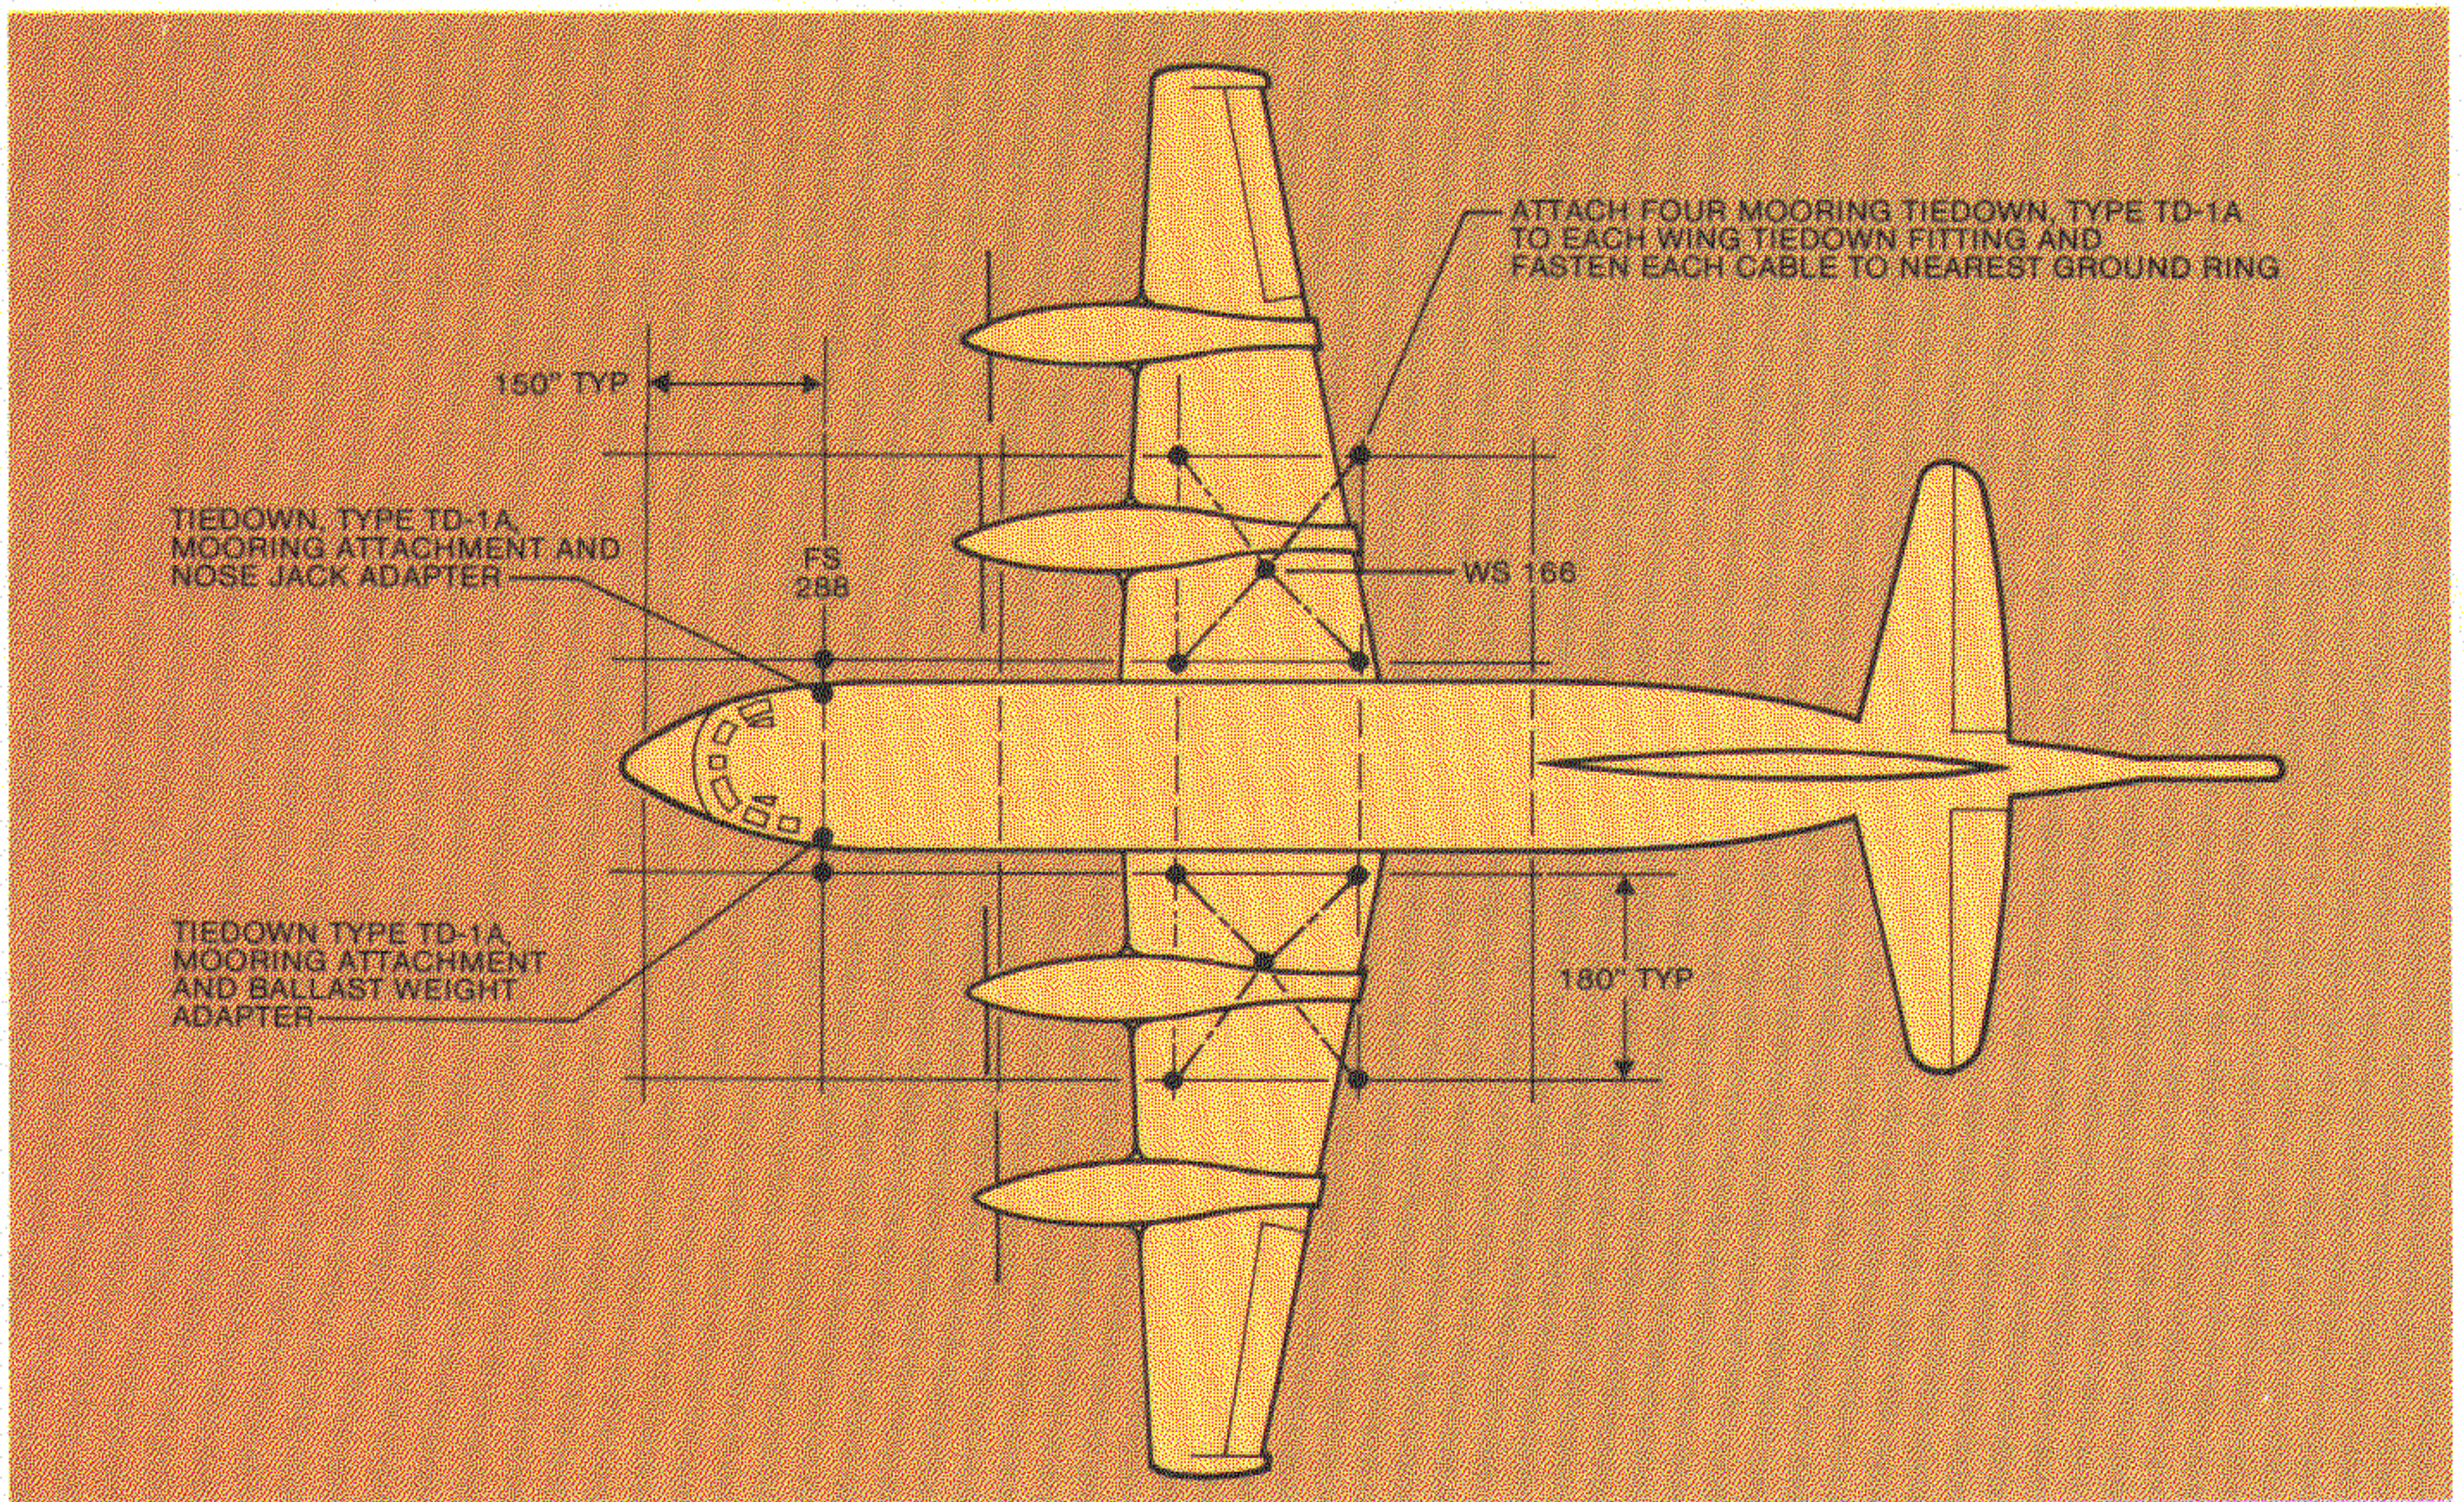

Figure 7. Mooring for Wind Velocities from 45 to 60 Knots
- Under icing conditions, or under all conditions (including icing) when the wind velocity is from 45 to 60 knots from any direction, use a one-point tie-down at both the nose left and right mooring fittings, a four-point tie-down at each wing mooring eye, and ensure the control surface boosters are engaged. See Figure 7.